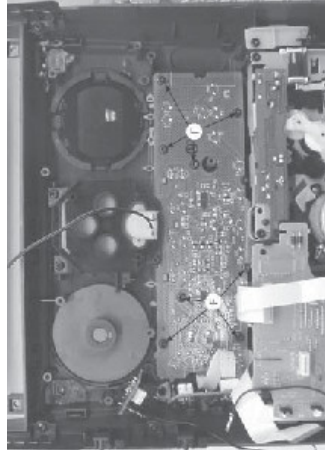

Figure 14
- 6) Loosen 8 screws F (see Figure 14) to remove the Front Control Board.